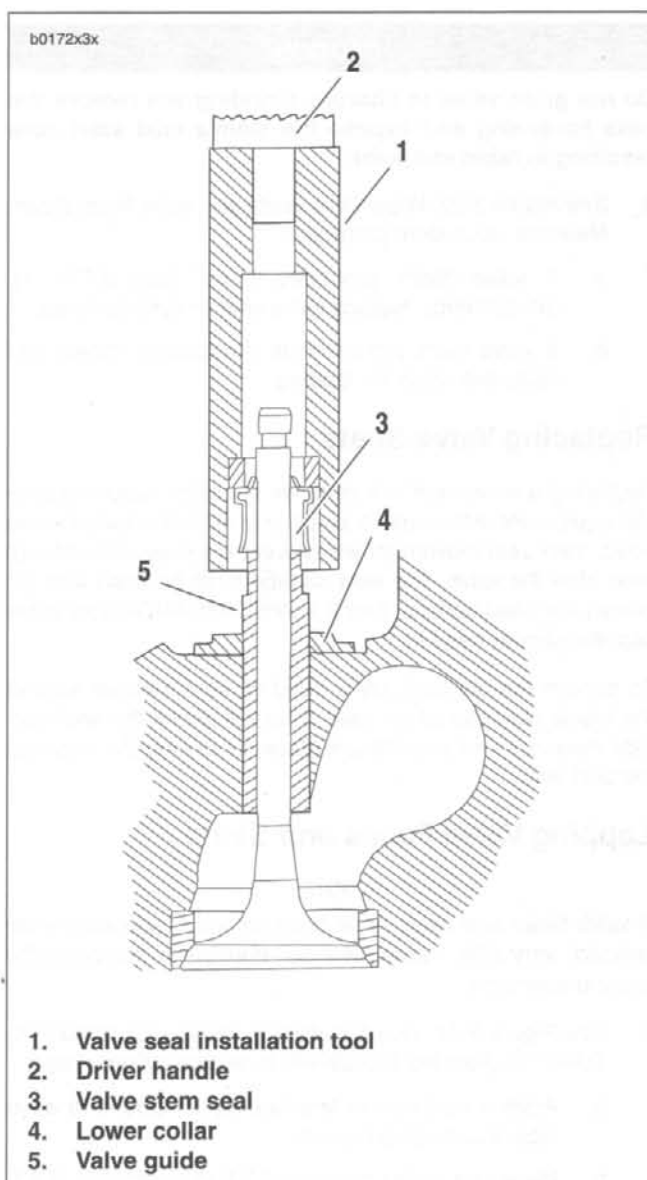

Figure 3-25. Valve Seal Installation
5. See Figure 3-25. Insert valve into valve guide (5) and install lower collar (4).
7. See Figure 3-25. Tap the valve stem seal (3) onto the valve guide (5) using the VALVE SEAL INSTALLATION TOOL (Part No. HD-34643A) and DRIVER HANDLE (Part No. HD-34740). The seal is completely installed when the tool touches the lower collar (4).